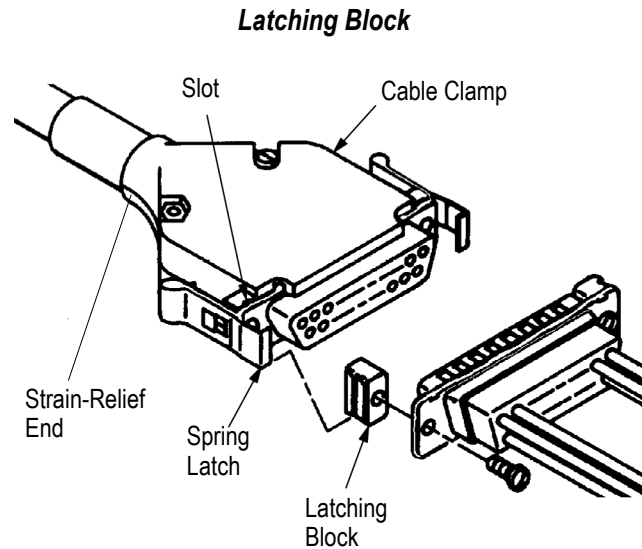

Figure 5
4. LATCHING BLOCKS (Figure 5)
Cable clamps may be used with latching blocks (208101, 745007, 745245, and 745286) by removing mounting screws and replacing them with spring latches (745255-2). Refer to Instruction Sheet 408-9130 and to Figure 5 of this document for proper assembly of spring latches.